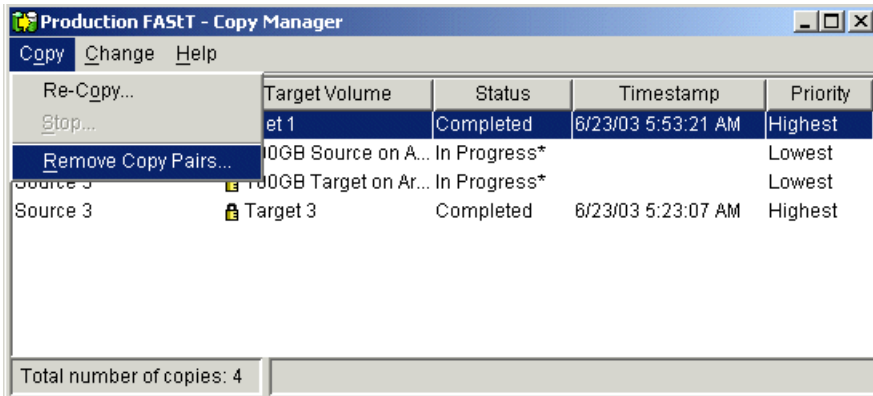

Figure 9-24 Copy Manager - Remove Copy Pairs menu
3. Select either the **Copy -> Remove Copy Pairs** pull-down menu option, or **Remove Copy Pairs** from the right-mouse pop-up menu (Figure 9-24 on page 304).